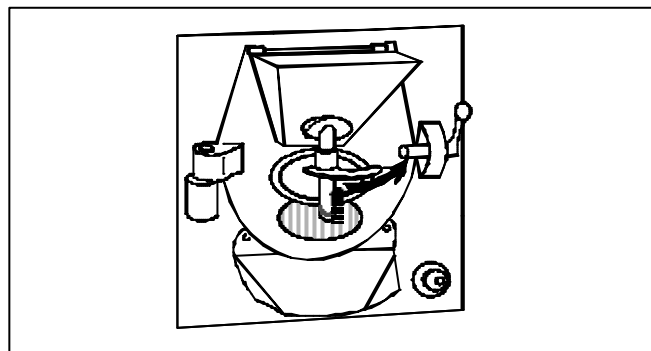

Figure 24
- Lock the ice cream gate on top by turning the handle to the right until it stops (ref. Fig. 24).